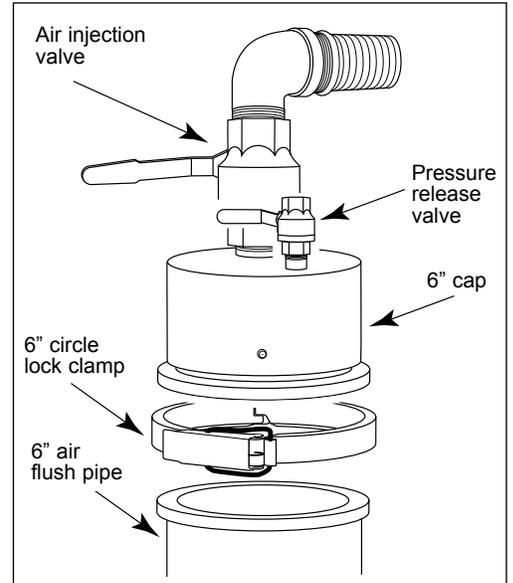
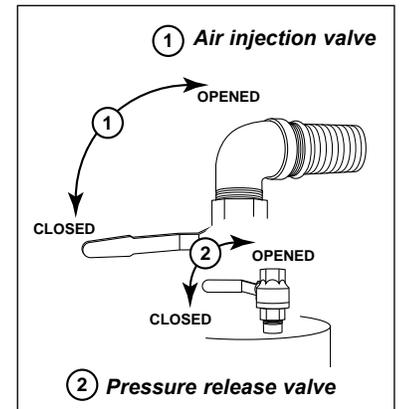

Fig.2
Fig.5
5. Before removing the 6" circle lock clamp - fig.2, it is mandatory to release any pressure in the evacuation line by opening the pressure release valve -fig.5. Failure to follow this warning could result in serious injuries.
6. Remove the 6" cap of the air flush pipe -fig.2;
8. Reinstall the 6" cap and the circle lock clamp -fig.2;
9. Open the air injection valve -fig.5;
4. Open the pressure release valve -fig.5;
5. Close the pressure release valve after complete evacuation of air pressure -fig.5;
6. Before removing the 6" circle lock clamp -fig.2, it is mandatory to release any pressure in the evacuation line by opening the pressure release valve -fig.5. Failure to follow this warning could result in serious injuries.
11. Open the air injection valve -fig.5;